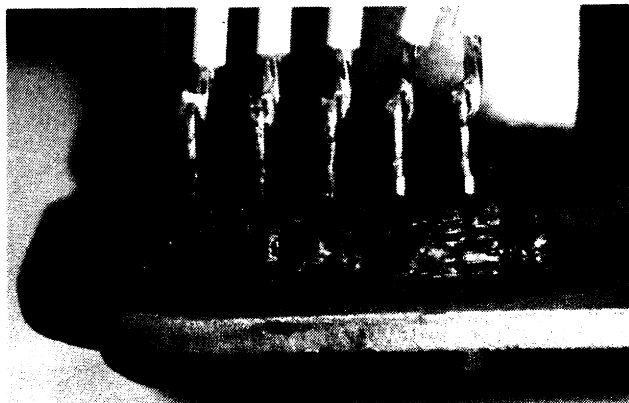

Figure 2 Repaired
5. Use RTV (Silicone rubber sealant, or equivalent, Dow Corning Corp., Midland, Mich. 48640) to seal terminal bushing to the mounting plate. Apply a small bead completely around the bottom of bushing to secure the bushing to the plate as shown in figure 2 (repaired). If RTV is not available, use either Hysol, Epoxi-Patch Kit (general purpose), Hysol Corp., Olean, NY or Conap, Easyepoxy Kit (K20 general purpose) 1405 Buffalo St., Olean, NY, or equivalent.